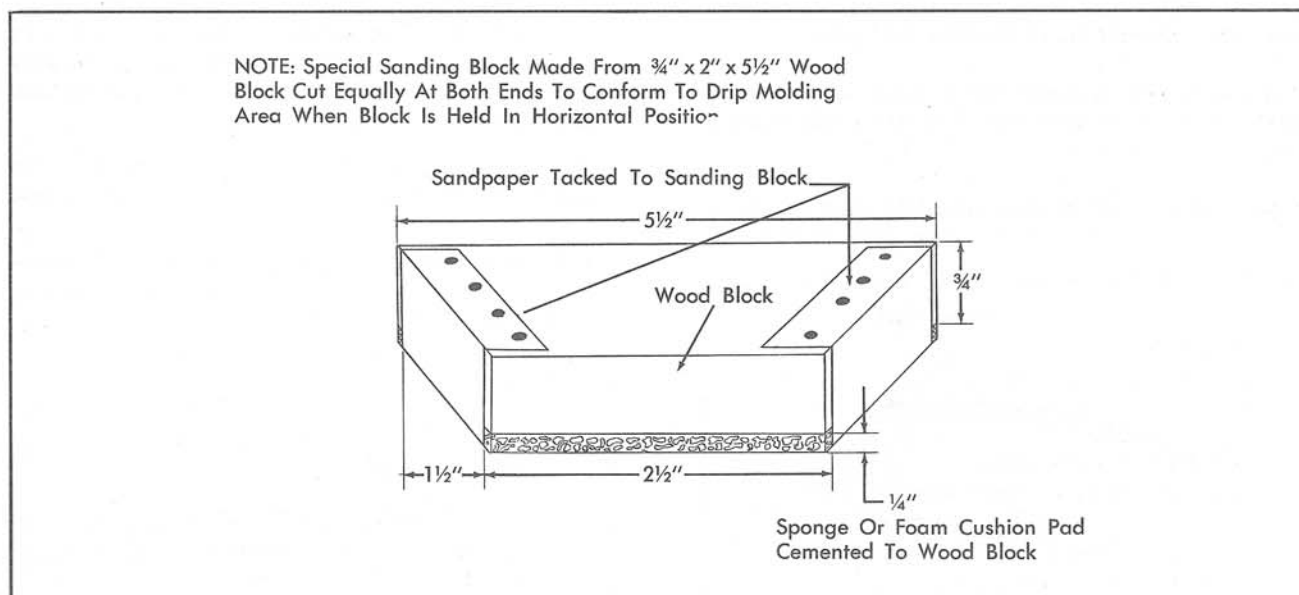

Fig. 17-67 Sanding Block for Roof Panel Extension Area
5. Construct special sanding block as shown in Fig. 17-67.